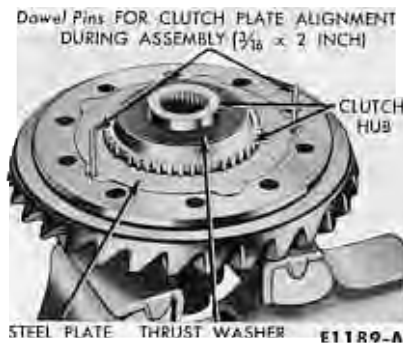

FIG. 25—Clutch Plate Installation
6. Clamp the differential case in a soft-jawed vise. Install the other differential side gear on the differential pinion gears. Place the clutch hub on the side gear. Place the thrust washer on the hub (Fig. 25).
7. To align the clutch plates during assembly, insert two $\frac{3}{16}$ x 2 dowel pins into the differential case. Place a steel plate on the differential case so that the slots in the ears straddle the dowel pin (Fig. 25). Lubricate all the limited-slip differential parts with axle lubricant so that an accurate torque check can be made.